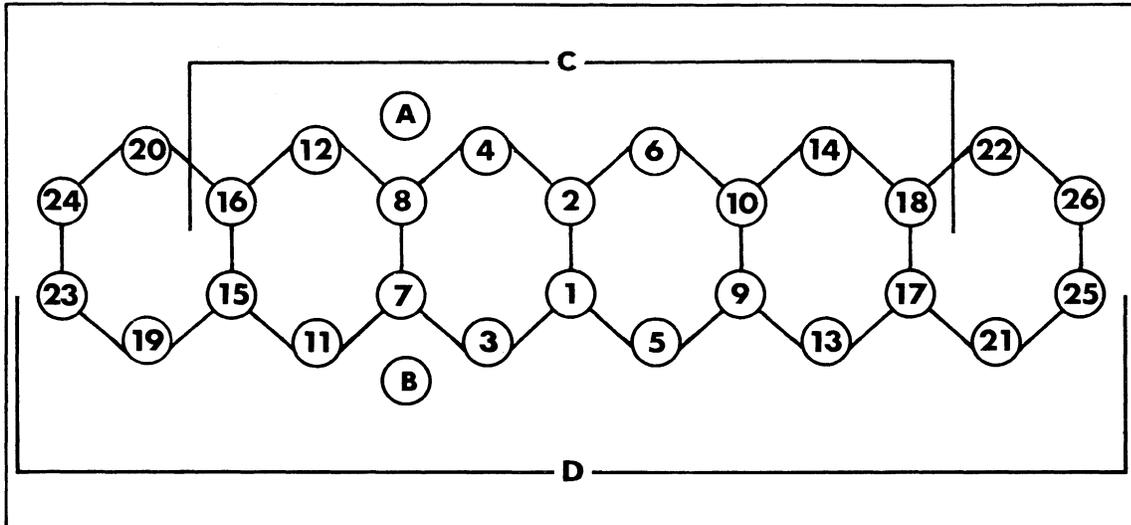

Figure 14
2. Position the rocker shaft assembly on the head, lubricate the cylinder head bolts and install finger tight. Tighten the cylinder head bolts in the proper sequence, Figure 14. Tighten progressively in three steps: first 80 lb. ft. (11.04 kgm), then to 90 lb. ft. (12.42 kgm) and finally to 110 lb. ft. (15.21 kgm).